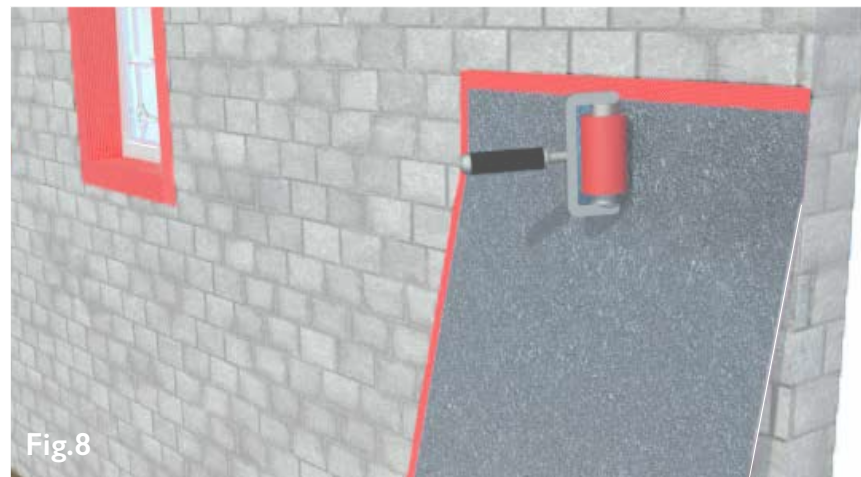

Fig.8
7. Use a hand roller across the entire adhered section. (Fig.8)